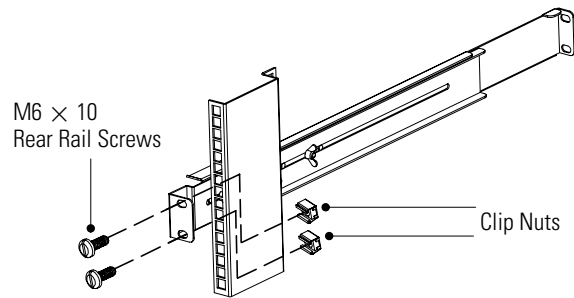

Figure 4. Securing the Rear Rail
6. Using two M6 × 10 screws and two clip nuts, attach the rail to the rear of the rack (see Figure 4).